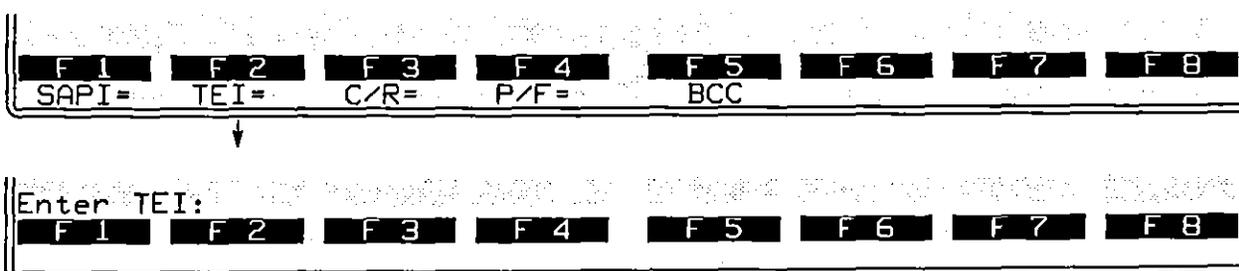

Figure 42-10 The TEI is an optional condition within all frame-type conditions.
7. *TEI*. Like SAPI, a TEI condition may be added to all frame types. Press the softkey for TEI=, shown in Figure 42-10. Then enter the 7-bit TEI value as two hex digits in a range from 00 to 7F. (Do not use the **HEX** key.)